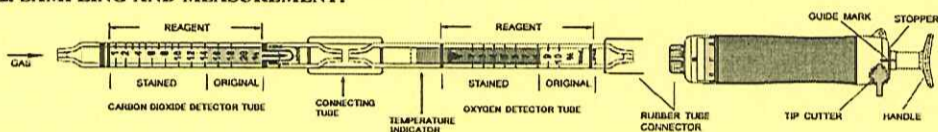

Fig. 1
- ② Break both ends of the detector tubes and connect each end of the detector tubes with connecting tube as shown in Fig. 1.
- ③ Insert the end of the detector tubes into the aspirating pump securely as shown in Fig. 1. (Arrow marks shall point to the pump.)
- ④ Align the guide marks on the shaft and stopper of the aspirating pump.
- ⑤ Pull the pump handle at a full stroke until it locks and wait for 8 minutes or until the completion of sampling is confirmed with the flow indicator of the pump. (See descriptions about the flow indicator in the instruction manual of the pump.)
- ⑥ On completion of sampling, read the scales at the maximum point of the stained layer.